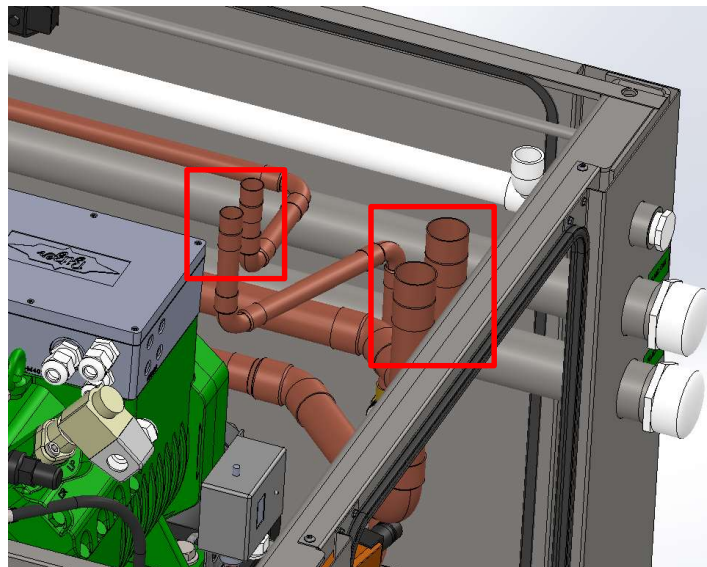

Figure 9 – Copper Couplings
1. Braze a refrigeration grade copper coupling to the suction and liquid line of the compressor section (Figure 9). See Material and Brazing sections for more information.